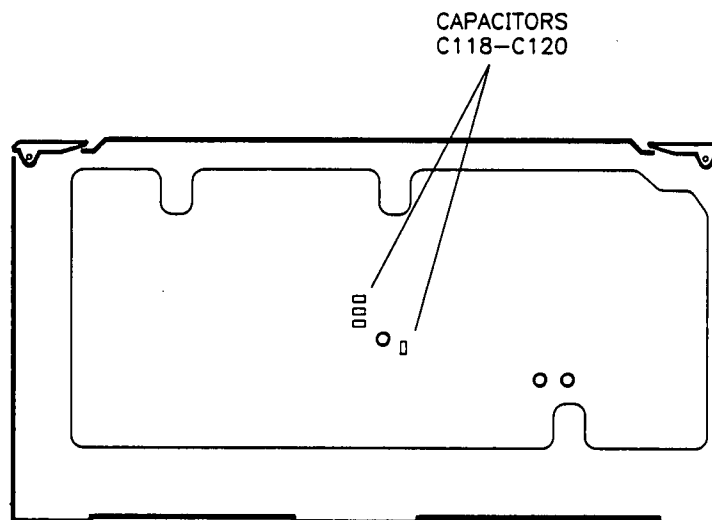

Figure 3-10. Capacitor Locations
1. If the needle is to the right of center with the A6C55 capacitor fully counterclockwise, remove capacitors, one at a time, until the needle is to the left of center. See figure 3-10 for capacitor locations.
2. If the needle is to the left of center with the A6C55 capacitor fully clockwise, add capacitors (HP part number 0160-5896), one at a time, until the needle is to the right of center. See figure 3-10 for capacitor locations.